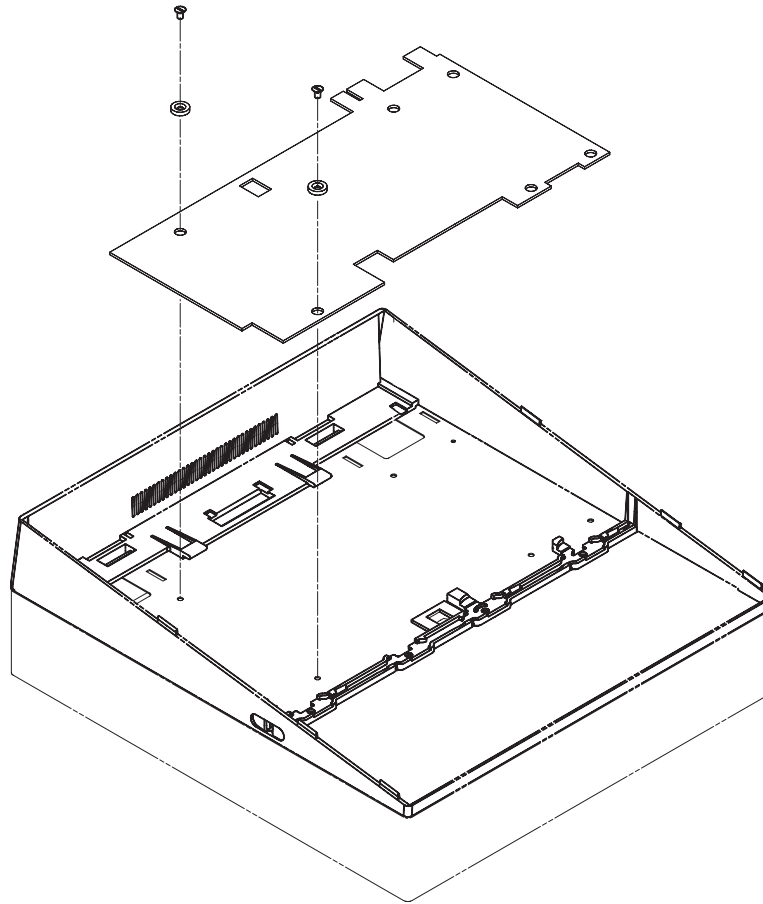

Figure 2-24. Inserting the stiffening plate
2. As shown in Figure 2-24, place the stiffening plate onto the 4694 aligning the holes in the plate with the holes in the unit.
Note: Figure 2-24 illustrates the right-oriented placement of the arm. Rotate the plate over for a left-oriented placement.